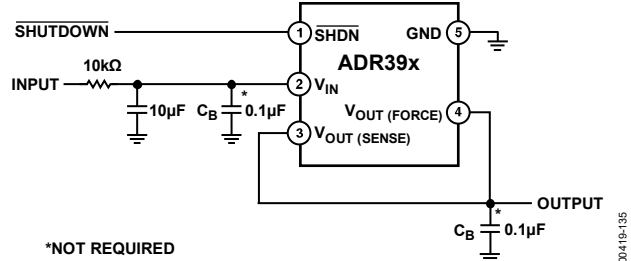

Figure 36. Low Pass Filter at V_{IN} Pin
- Low pass filter the input as shown in Figure 36, or